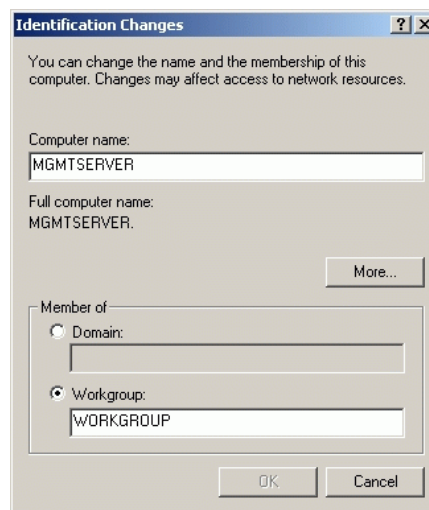

Figure 2-52 Identification Changes Dialog Box
4. Click *Properties*. The *Identification Changes* dialog box displays (Figure 2-52).